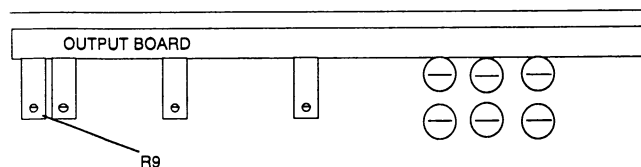

Figure 4-16. R9 Locator
2. Slide the cover back. Adjust R9 on the output board (see figure 4-16) while observing the scope. Use the scopes delta time cursors to measure the two halves of the square's time symmetry between the 50% points. Adjust R9 until the time symmetry is equal ± 0.5 ns. Slide the cover back on.